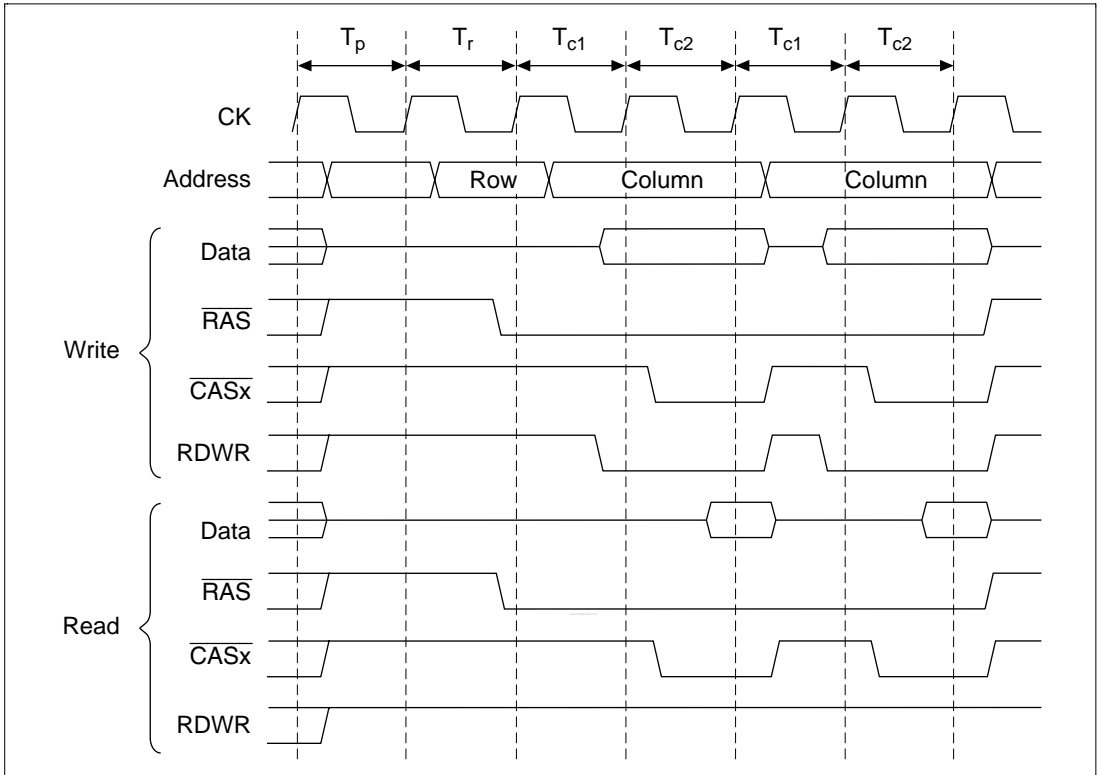

Figure 10.12 DRAM Bus Cycle (High-Speed Page Mode)
High-Speed Page Mode: When the burst enable bit (BE) of the DCR is set, burst accesses can be performed using high speed page mode. The timing is shown in figure 10.12. Wait cycles can be inserted during burst accesses by using the DCR.